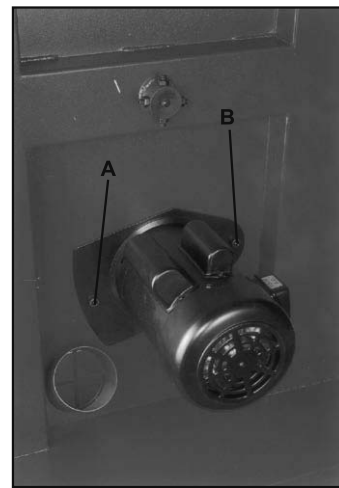

Fig. 12
1. Loosen the two screw (A, B, Fig. 12), change the belt to the belt to the required belt solt.